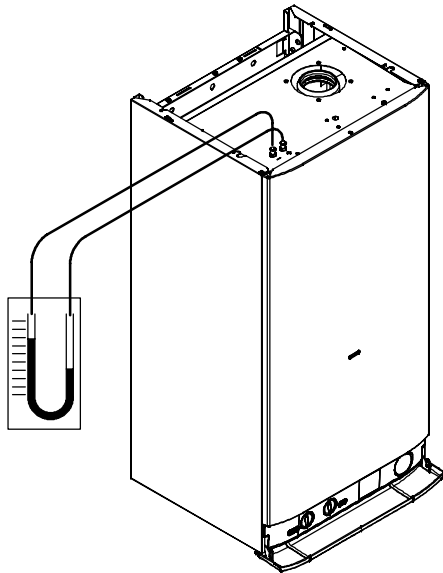

Fig. 76
- 1 Remove the caps of the pressure test points located on the top of the boiler and connect a differential pressure gauge (Fig. 76).